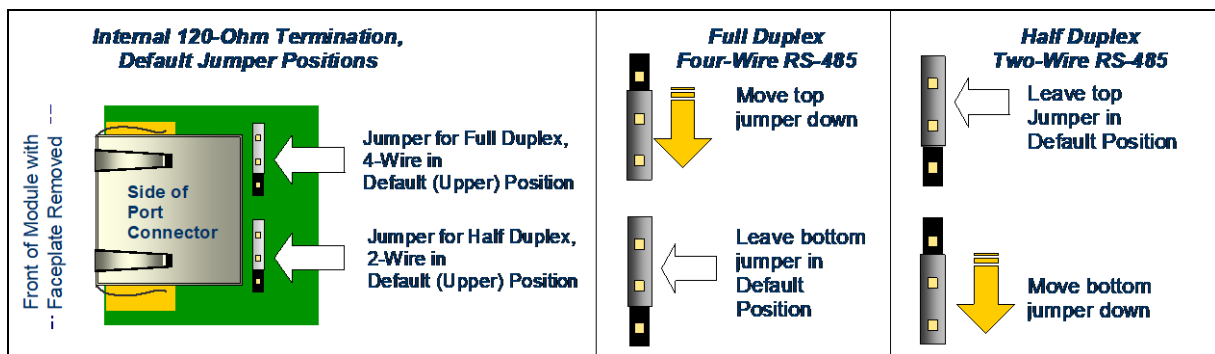

Figure 375: Using the module Internal Jumpers & Built-in 120Ω Resistor for Termination
- B. Using an external jumper wire. To use this method, do NOT change the positions of the internal jumpers as shown in Figure 375 above. Instead, connect an external jumper wire across connector pins 3 and 7 for RS-485 4-wire, or across connector pins 1 and 4 for RS-485 2-wire.